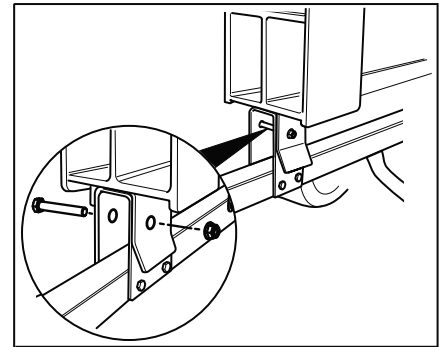

Fig. 6b
- Attach bolt and nut (A) and tighten (Fig. 6b).